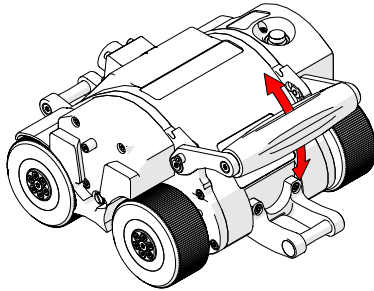

Fig. 25 - Pivot handle as desired
2. Pivot the handle as required (*Fig. 25*).